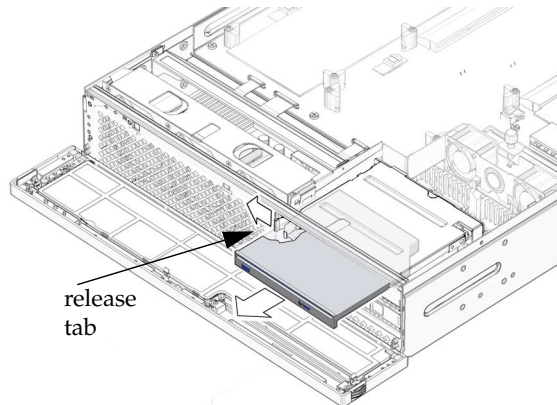

FIGURE 3-14 Releasing the DVD Drive
3. Push the release tab to the left and pull the probe forward, freeing the DVD drive (FIGURE 3-14).